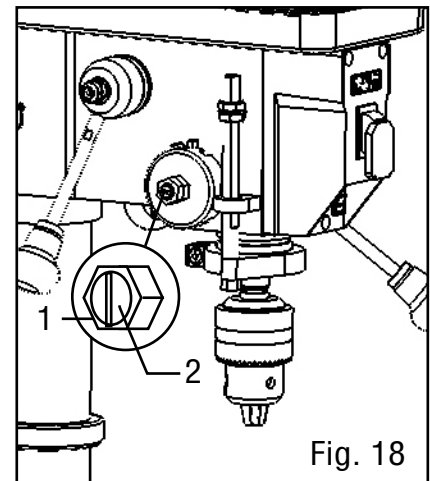

Fig. 18
ANGULAR “PLAY” OF THE SPINDLE (FIG. 18)
1. Loosen the outer nut (Fig. 18 - 1) about 1/8 inch.
2. Without obstructing the upward and downward motion of the spindle, turn the screw (Fig. 18 - 2) clockwise to eliminate the “play.”
3. Tighten the lock nut (Fig. 18 - 1).